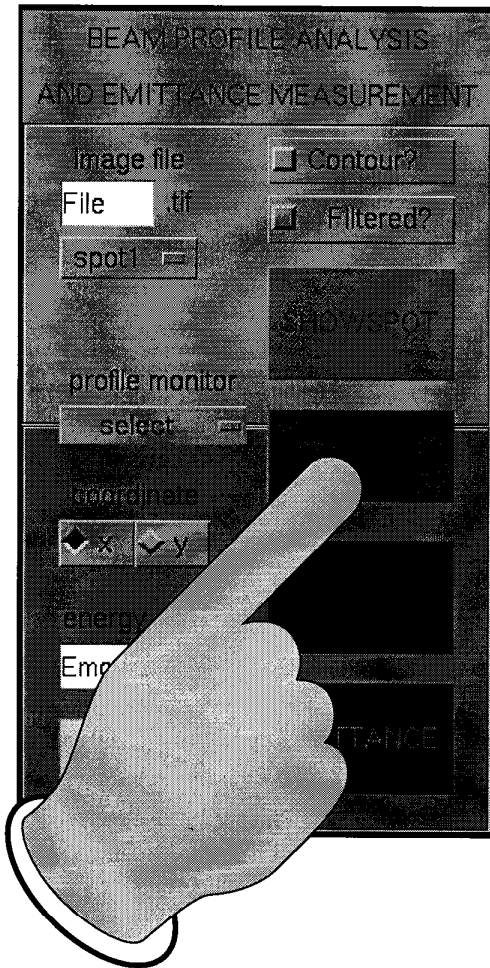
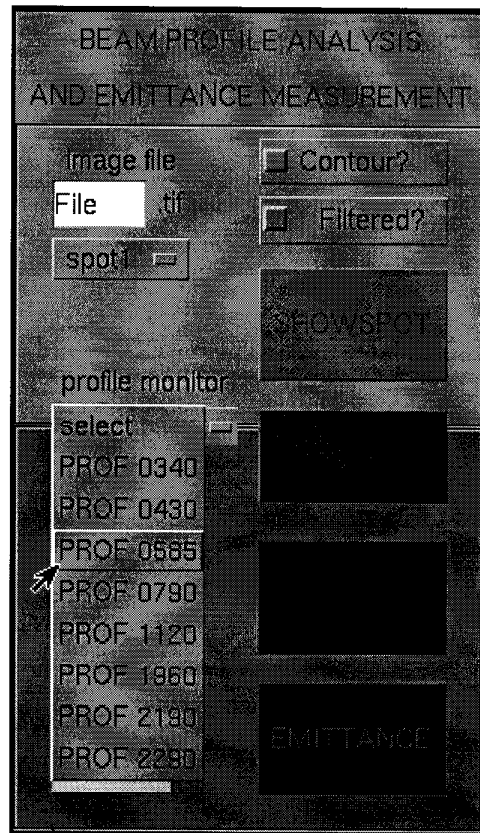

Figure 1. Press "IMPORT" to import beamspot image files from PC via FTP.
Figure 2. Indicate profile monitor used from drop-down menu.
- d) Press *FITS*. MATLAB will calculate the sigmas of the beam spots by fitting gaussians to their projections. This takes a couple of minutes, so be patient. The fits and sigma values will be displayed in the *figure 1* window (along with plots of integrated light over TMIT and centroid position).
¹ The upper, older section is for analyzing individual beamspots, chosen from the drop-down menu or entered in the text field (sans ".tif"). Pressing *SHOWSPOT* results in the *x* and *y* projections being plotted in the *figure 1* window, along with gaussian fits and measured sigmas and centroids, and, if *Contour?* is pressed, a 2-D contour plot of the spot being drawn in the *figure 2* window. To make the contour plot look nice (and not take forever), the image is filtered or smoothed first. If the image file data is already smoothed (e.g. by *GLI*), one can speed things up by indicating so with the *Filtered?* button.